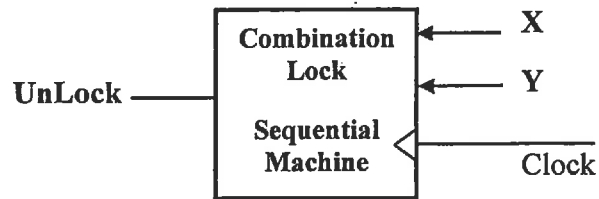

Figure Q3
3. A combination lock employs a synchronous sequential machine that has two inputs (X and Y) and an output (UnLock) as shown in Figure Q3. A logic HIGH output (UnLock) is generated if and only if X remains LOW and the sequence of inputs received on Y at the preceding five clock ticks is 10101.